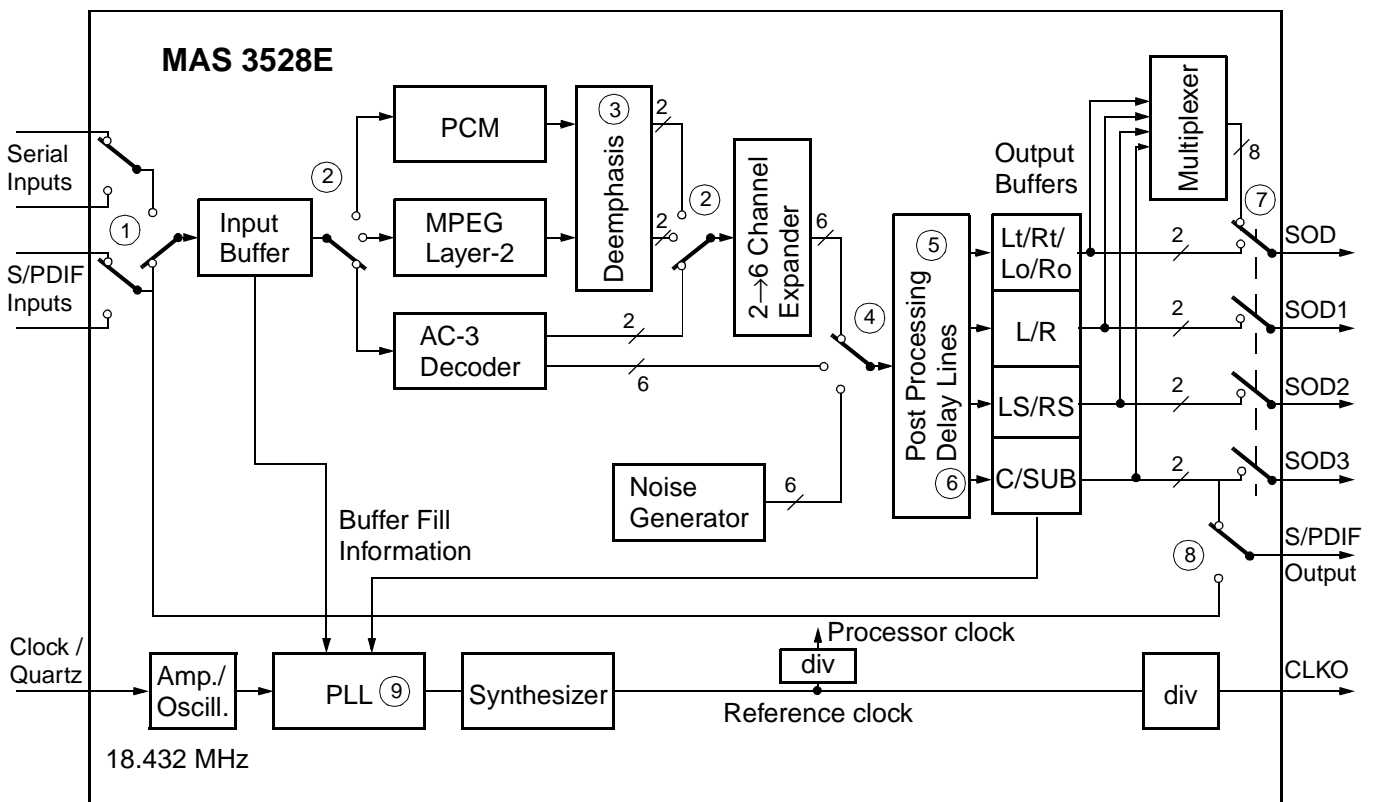

Fig. 2–2: Functionality of the MAS 3528E
A block diagram of the MAS 3528E functionality is shown in Fig. 2–2.
Both input interfaces, the S/PDIF (default ① in Fig. 2–2) or the serial input interface, may carry any of the three data formats: Dolby Digital (AC-3), MPEG Layer-2, or PCM. The filling status of the input buffer represents the data rate and therefore controls the system clock. The input interface can be selected in D0:13D0.